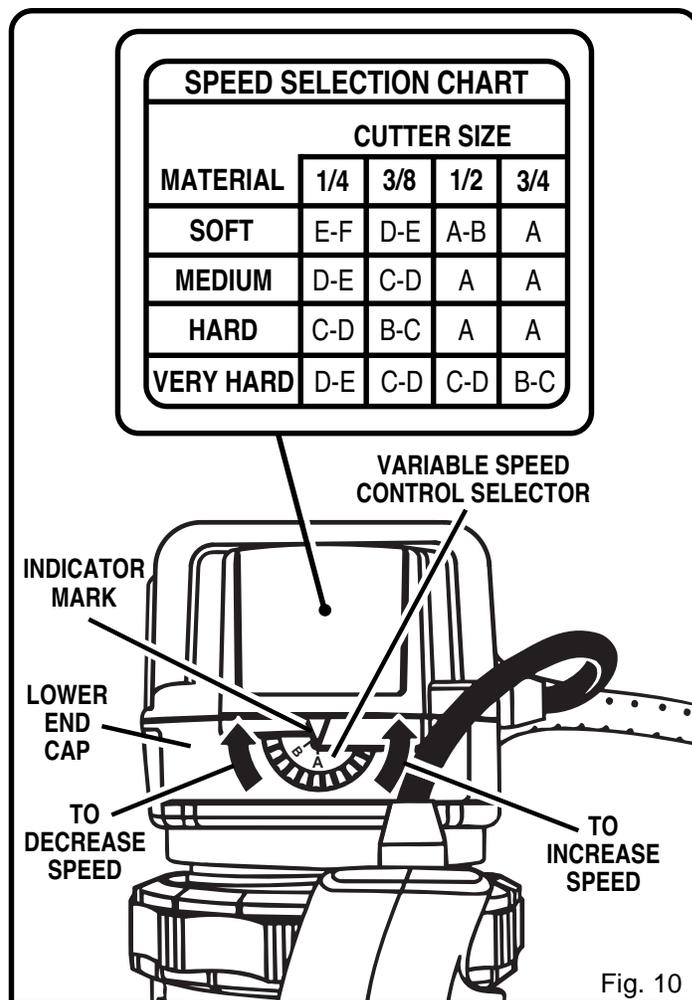

Fig. 10
See Figure 10.
The speed selection chart shown gives suggested speed settings based on the diameter of the cutter and the type of material being routed. See Figure 10.
- Choose the desired speed from the speed selection chart. See Figure 10.
In general, if the material being cut is hard, the cutter size is large, or the depth of cut is deep - maximum 1/8 in. (3.2 mm), then your router should be run at slower speeds. When these situations exist, turn the variable speed control selector until the desired speed is reached. See Figure 10.